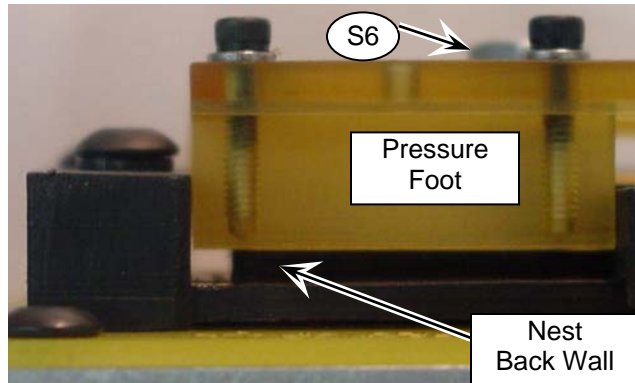

Figure 5
11. If necessary, adjust the height between the Nest and the Pressure Foot so the bottom of the Pressure Foot is just below the top of the back wall of the Nest. To do so, loosen the lock nut and adjust S6. Then re-tighten the lock nut. [Figure 5]